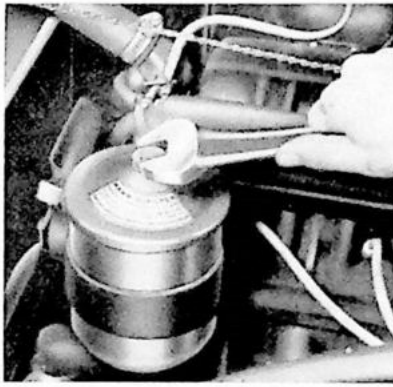

Fig. 20. Removing the cover.
1. Clean the cover and loosen the centre bolt. See Fig. 20. Lift up the cover and the element.